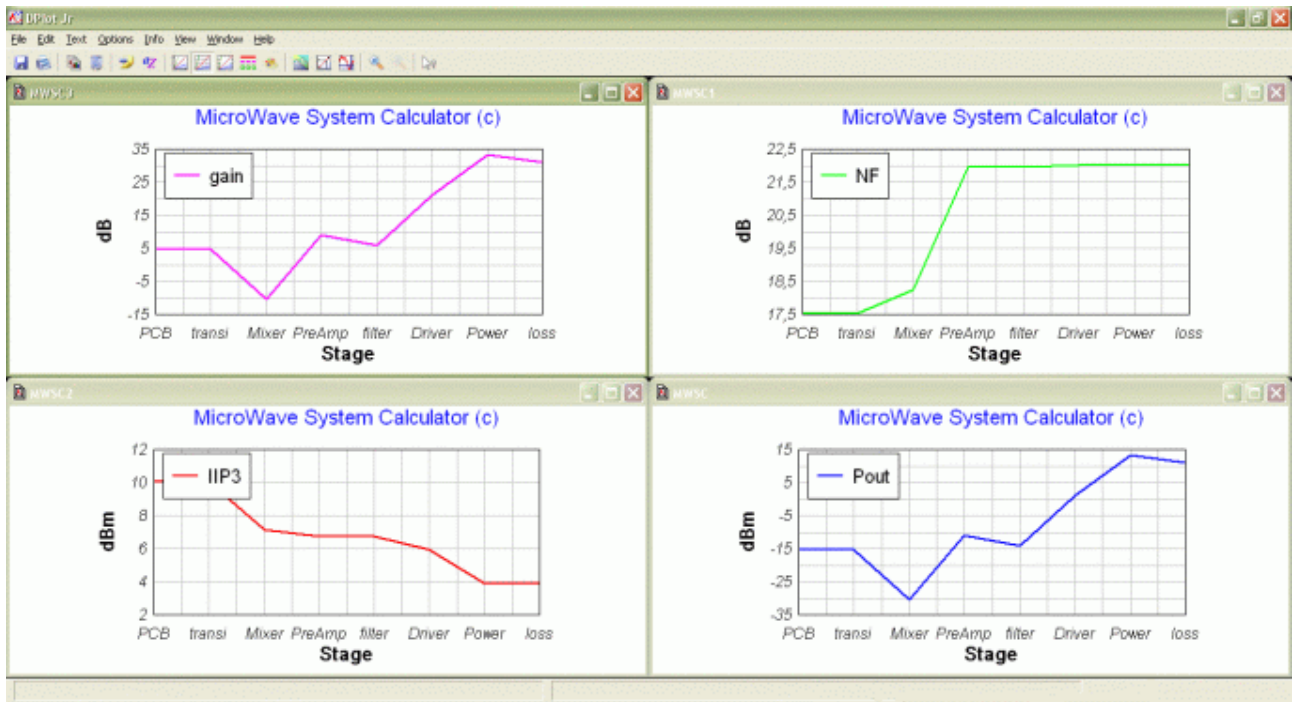

Figure 2: Mystic output displayed by dPlot
| Figure 2: Mystic output displayed by dPlot..... | 6 |
- The right window is the graphical representation of the main system parameters (see Figure 2). Graphical output is provided by the use of the software *dPlot jr*. After analysis you can decide to close this window and to get new graphs or to leave it opened so you can check performance changes resulting from your latest ones in the input data file (for more details please refer to par. 1.4).
- output plots related to main output quantities (see Figure 2)